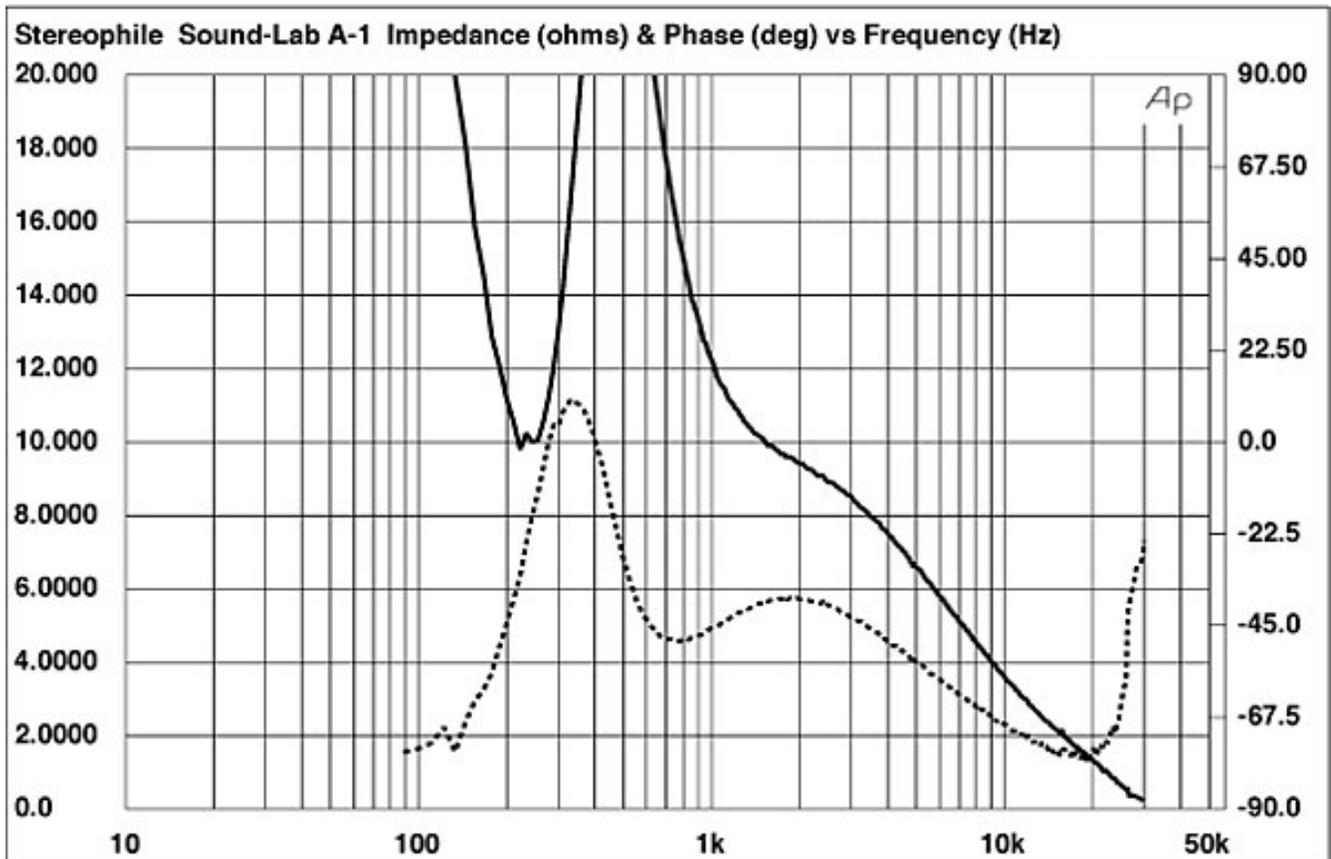

Fig.1 Sound-Lab A-1, electrical impedance (solid) and phase (dashed) (2 ohms/vertical div.).
To investigate the answer to Dick's question, I measured the A-1's impedance magnitude at three settings of the Brilliance Control (BC) with DRA Labs' MLSSA system. With the BC set at Maximum (pot wide open), I obtained the curves in fig.1. Although the magnitude of the impedance is above 10 ohms from the upper bass to 2kHz, and well above 30 ohms in the bass, note the drop in the mid-treble and above. The cursor indicates a punishingly low 1.3 ohms at 20kHz with an equally punishing phase angle of -75.5° , dropping even further to just a small fraction of an ohm at ultrasonic frequencies. This measurement necessarily includes the resistance of the speaker cables DO was using (TARA Labs Rectangular Solid Core); as the margin of error in my measurement is probably around a fraction of ohm, it's quite possible that the A-1 presents amplifiers with a complete short circuit above the audio range. Fundamentally, therefore, in electrical terms, the A-1 with its BC set to maximum is nothing more than a large capacitor. If this isn't hell for a power amplifier, I don't know what is (footnote 1). No wonder DO's amps were choking.